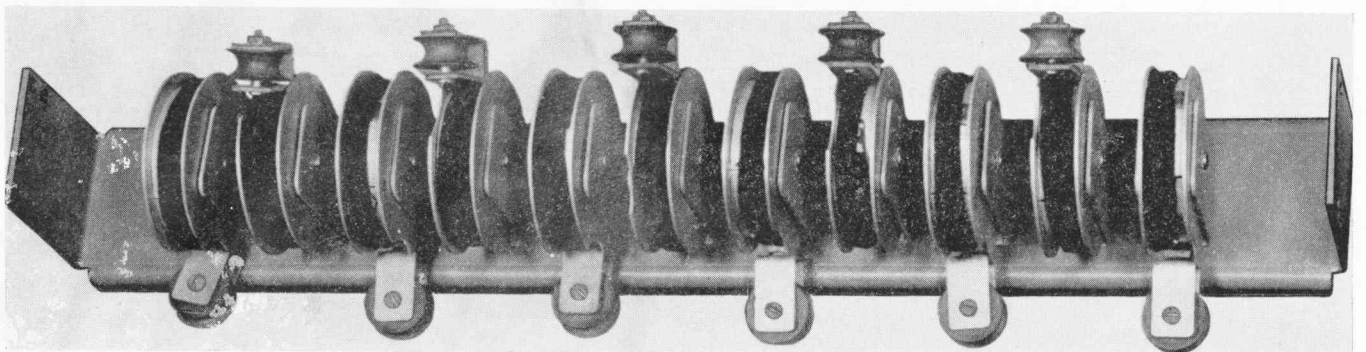

Figure 1-15. Retainer-Pulley Assembly, AN Type MX-813/G
(11) RETAINER-PULLEY ASSEMBLY AN TYPE MX-813/G (*Figure 1-15*).—The Retainer-Pulley Assembly AN Type MX-813/G consists of eleven spring loaded retainers mounted on a steel bracket. The bracket is secured at each end by two vertical channels mounted between adjacent cross members in the sides of the AF cabinet. The purpose of the Retainer-Pulley Assembly is to furnish a method by which patchcords can be stowed in an orderly manner when